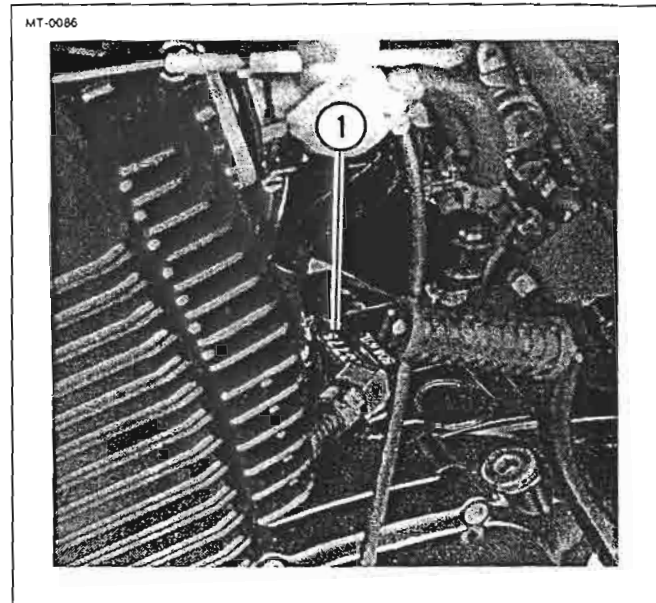

Figure 1-4. Crankcase Serial Number
See Figure 1-4. A six-digit serial number (1) is stamped into the engine crankcase, just behind the crankcase breather hose fitting.